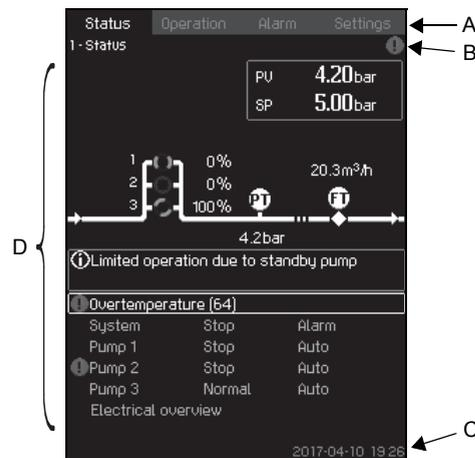

Fig. 9 Display design
The menu line (A) is illustrated in fig. 9. The display has four main menus:
The top line (B) is illustrated in fig. 9. It shows the following: